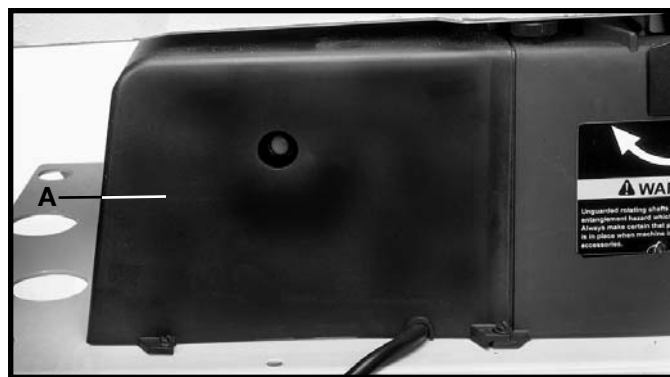

Fig. 5
- Remove the motor cover (A) Fig. 5 by loosening the six screws that fasten it to the stand.